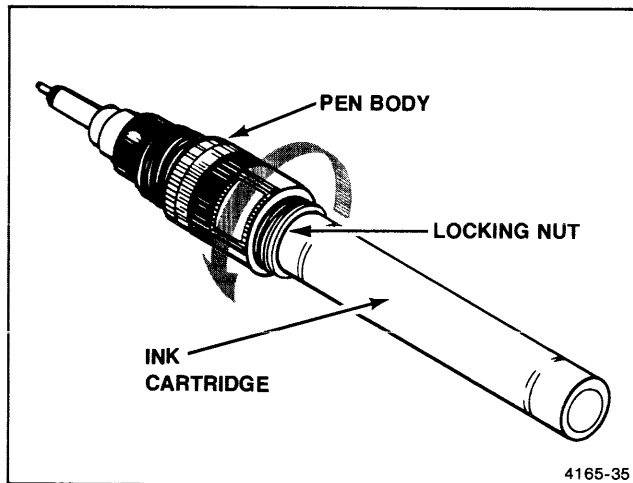

Figure E-1. Removing the 4662 Wet-Ink Pen Locking Nut.
1. Gently unscrew and remove the locking nut by hand (see Figure E-1).